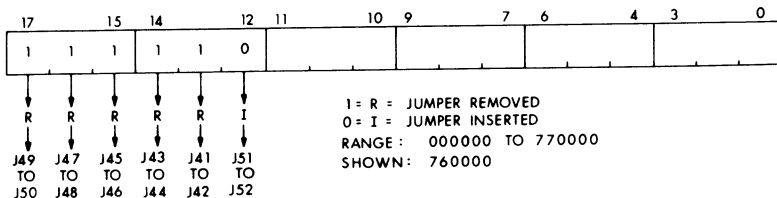

Figure 17-22 Selecting Window Starting Address
**Starting Address of Windows** — Wire-wrap pins J41 through J52 are used to configure the starting address of windows. The user selects an address and installs the jumper wires as directed in Figure 17-22. The recommended value of the window starting is  $160000_8$  (or  $760000_8$  for 18-bit systems). This places the window at the bottom of the I/O page.